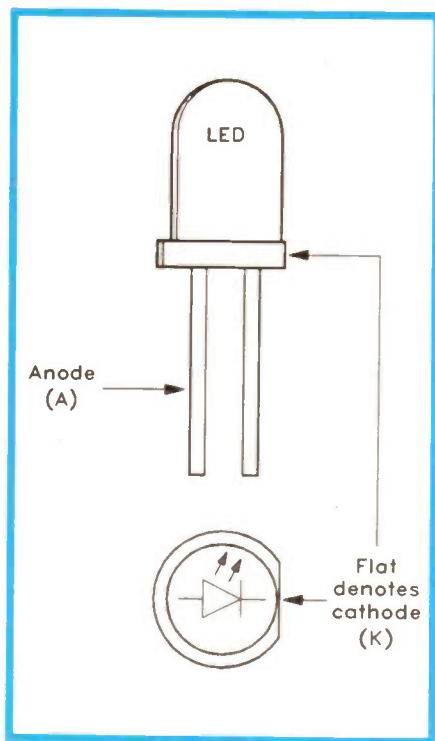

Figure 3. LED (LD1) connections.
- b) Next fit the LED, LD1, which is a 'blob' of clear red plastic, with two wires coming out of one end, as shown in Figure 3. It is fitted in the position shown on the guide-sheet, and *must* be connected the right way round – or it will not light up. One side of the LED is flattened (the lead on this side of the LED is known as the cathode (K), while the lead on the other, rounded, side is called the anode (A)). Make sure that the LEDs are fitted so that the 'flattened' sides line up with the drawing of the LED printed on the guide-sheet.